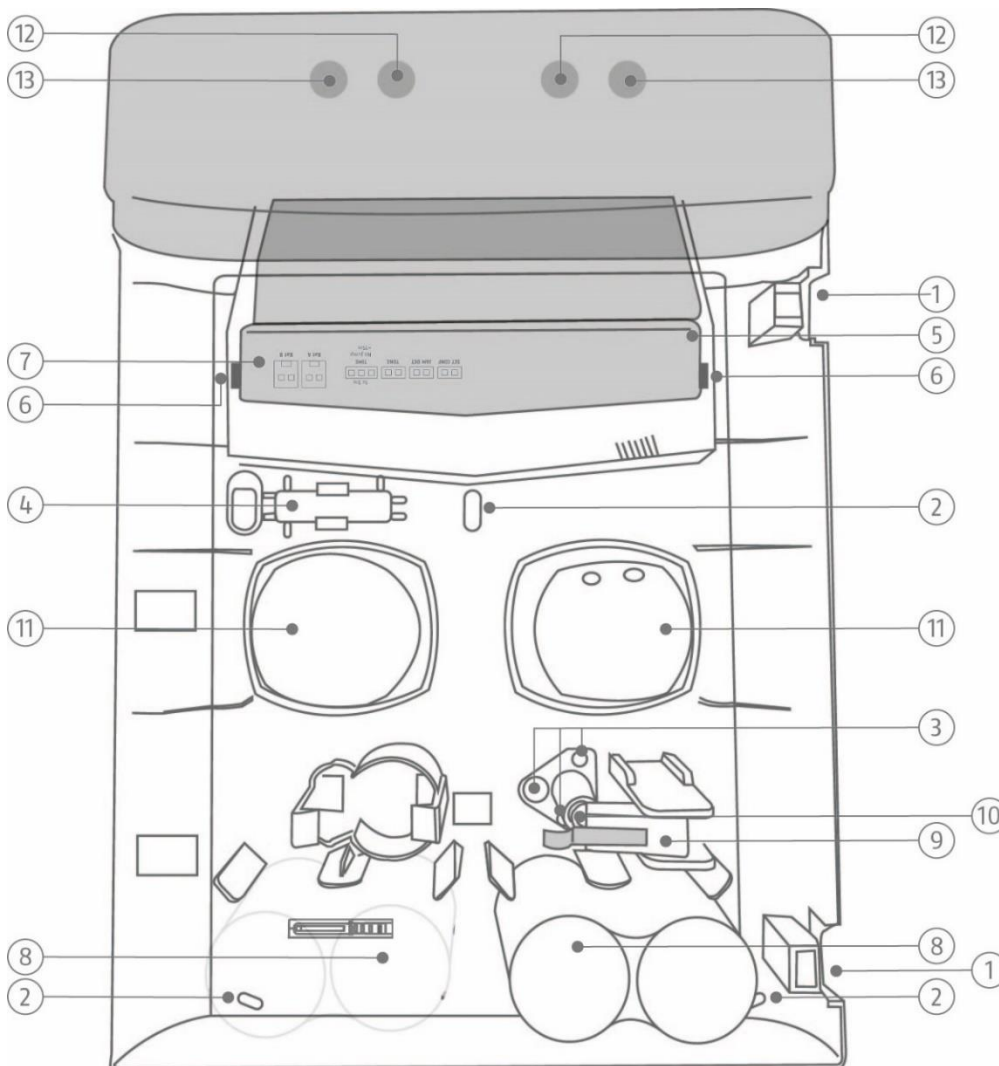

Figure 1: Overview of the sounder
- Open the two covers for the two lid-fixing screws (see Fig. 1).
- Remove the jumper/connector cover (see Fig. 1) by pushing the two fixing tabs (see Fig. 1) outwards and lifting up the cover at the same time.